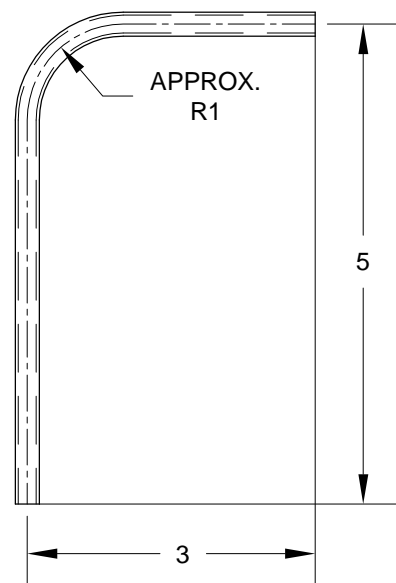

FIGURE 1: PITOT TUBE
Step 1: Make the PITOT TUBE from ATO-032 X 1/4. Start with a piece of tubing at least 8 inches long, bend the tubing and then trim to match the dimensions shown in Figure 1. See Section 5P for more information on aluminum tubing. Do **not** flare the end yet!